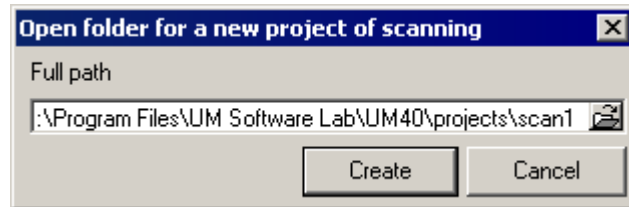

Figure 3.3. Folder for a new scanning project
2. Input the full path to the scanning directory including name of the project, Fig. 3.3.